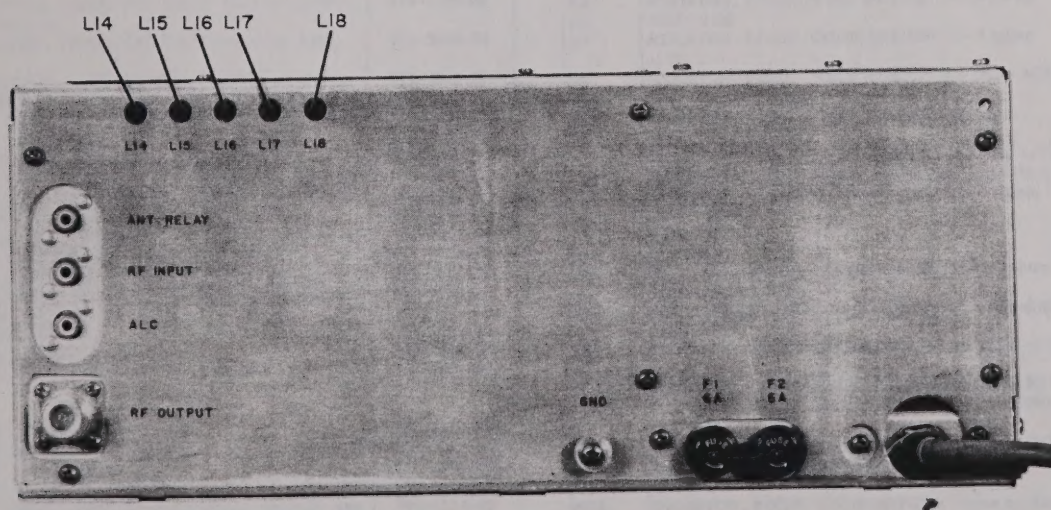

Figure 4-1. Location of Input Circuit Adjustments
e. Repeat the above procedures at 21.3, 14.3, 7.2, and 3.9 mc, adjusting L15, L16, L17, and L18 respectively. These adjustments are accessible through the holes in the rear cover of the r-f compartment. Do not remove the cover. Refer to figure 4-1.